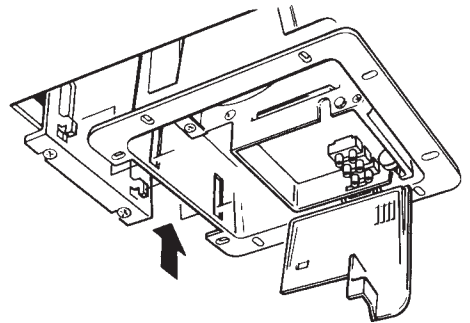

Fig.4
- ◆ Raise the fan into the hole, matching the slots in the fan to the hooks in the back draught shutter housing. (Fig.4).